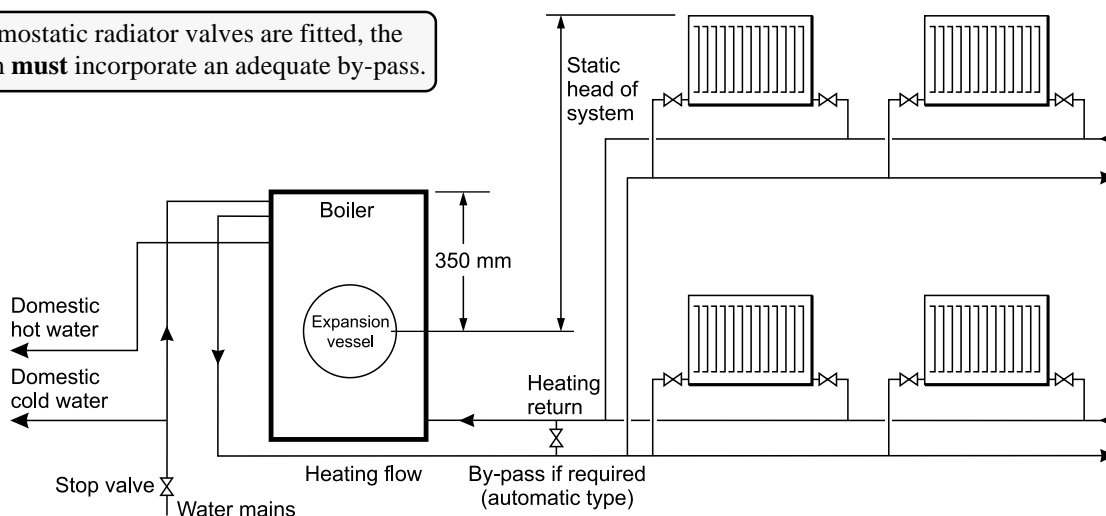

Fig. 12 - Sealed system
See Fig. 12
- 4 The system design pressure (cold) should be between 0.5 and 1.0 bar. This pressure is equivalent to the maximum static head (see Fig. 12) in bar + 0.3 (1 bar = 10.2 metres of water).